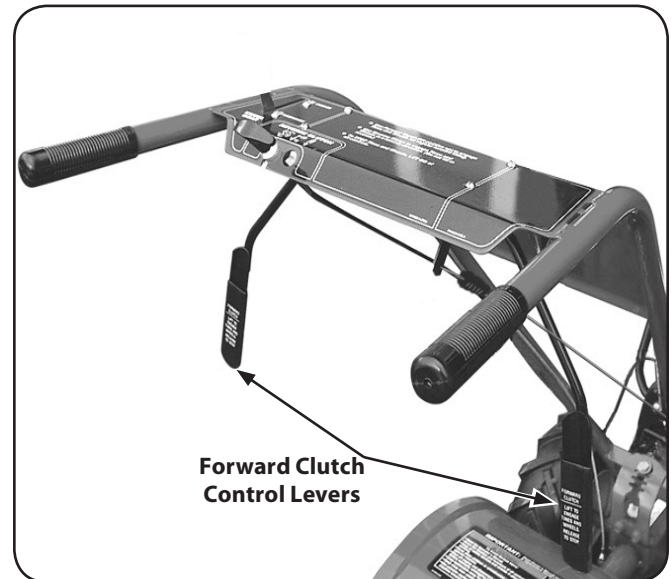

**Figure 3-5**
1. Carefully unwrap the reverse clutch control cable from its shipping position and route it up along the inside edge of the left side handlebar. See Fig. 3-5. A knob and large hex nut is installed on the cable.